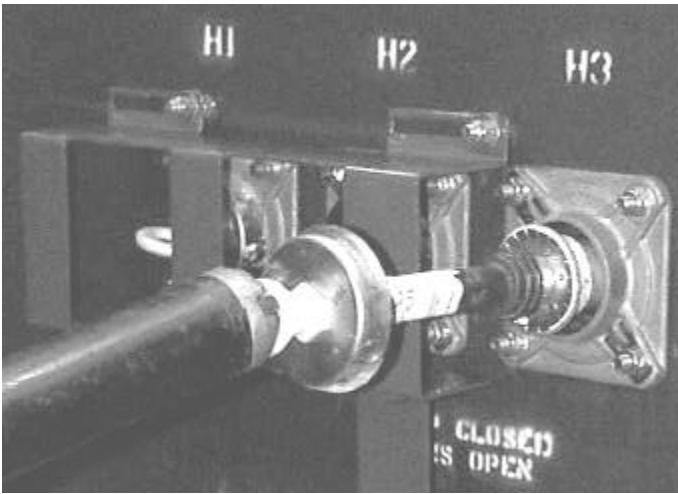

Figure 7. Fuse removal with a hot stick.
- 2.** Remove the draw-out assembly using a hot stick and the pulling eye on the cap assembly, as shown in Figure 7. Carefully withdraw the assembly to avoid damaging the contacts.